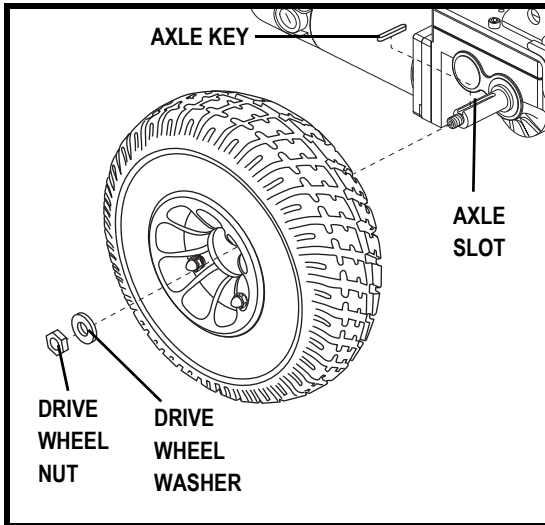

Figure 25. Pneumatic Drive Wheel Removal
5. Remove the drive wheel nut and washer from the axle. See figure 25 or 27.